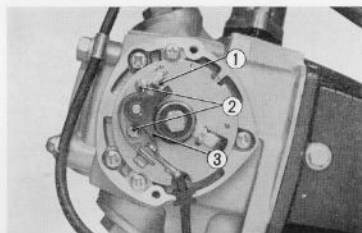

Fig. 5.5 Adjusting the point clearance
- b. Turn the generator rotor counter-clockwise to the point where the breaker points are at maximum opening. The normal gap ① is 0.3 to 0.4mm (0.012~0.016 in). If adjustment is necessary, loosen the two breaker arm adjusting screws ② and move the stationary breaker point by inserting a screwdriver into the adjusting slot to obtain the proper gap and then retighten the screws. (Fig. 5.5)